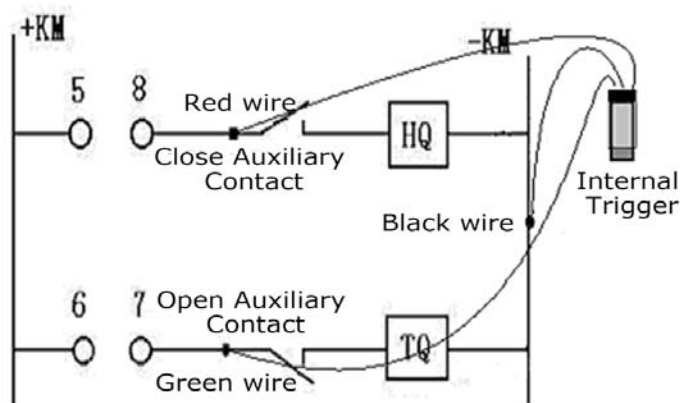

Figure 4
2. How to connect internal trigger open/close controlling (Figure 4)
The vacuum circuit breaker O/C controlling diagram as Figure 4: Close red wire to connect (4), Open green wire to connect (31), Common point (14) and (30) short connect and then connect with black wire.